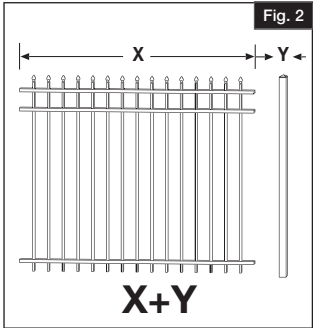

Fig. 2
Measure the width of the fence panel (X) plus the width of the post (Y). This is the common center-to-center measurement (unless there is a cut-down panel) for post hole location (Fig. 2).
- You now have one fence panel upright between two installed posts (Fig. 2).